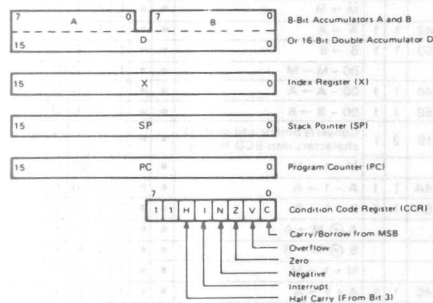

Figure 23 CPU Programming Model
- CPU Programming Model (refer to Fig. 23)
Fig. 23 depicts the HD6303X programming model. The double accumulator D consists of accumulator A and B, so when using the accumulator D, the contents of A and B are destroyed.